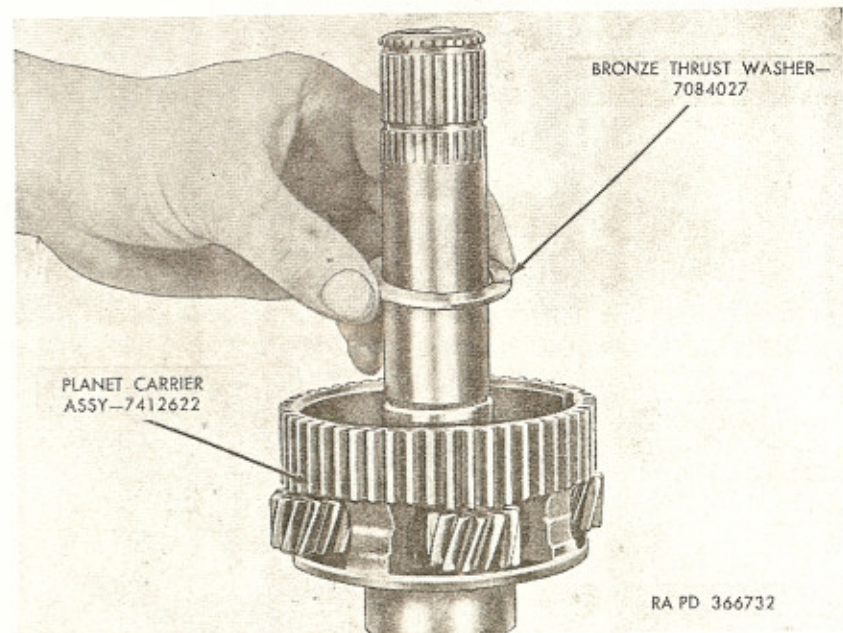

Figure 124. Installing planet carrier bronze thrust washer.
a. Install bronze thrust washer against the rear of front planet carrier hub (fig. 124).